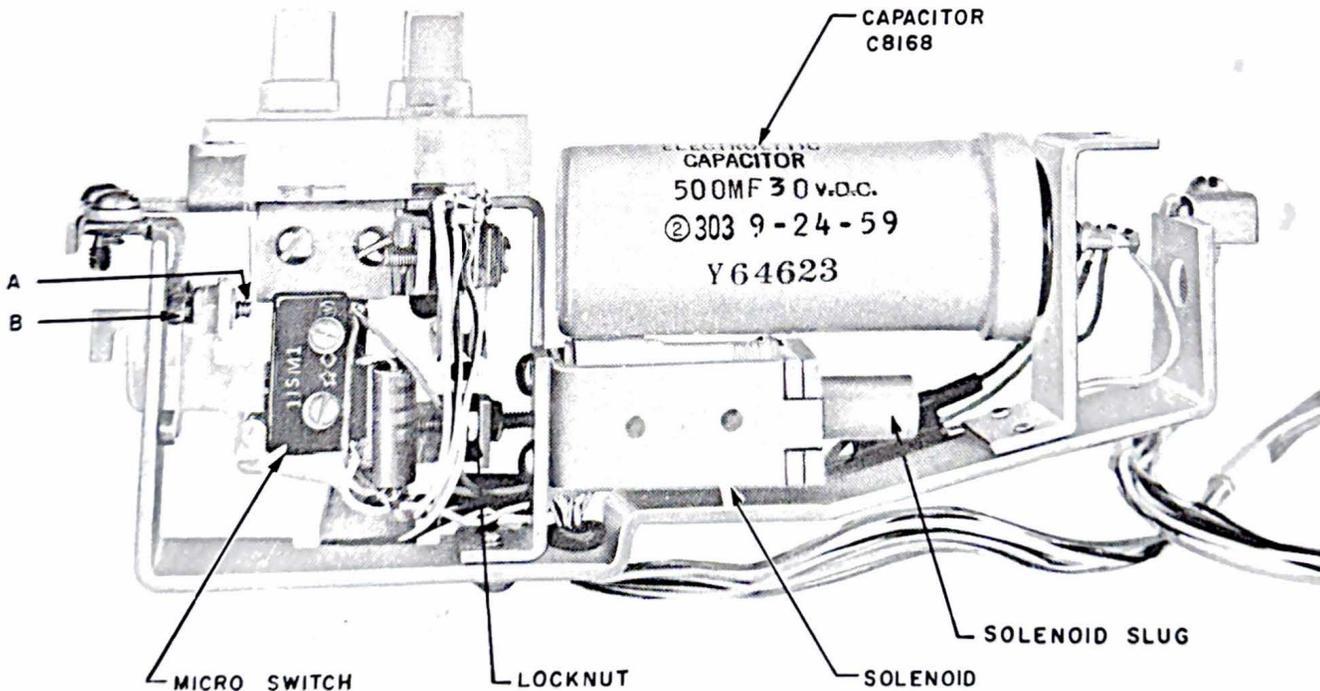

Fig. 18 - 622A Key, Cover Removed
- The solenoid slug should be 0.005 inch to 0.015 inch from the bottom of the solenoid at the completion of the stroke. Gauge by feel. To adjust the position of the slug, loosen the locknut with a 388A tool, and turn the slug in or out with the fingers (Fig. 18).
- The MICRO SWITCH should energize the solenoid with approximately 0.030 inch travel of the latch bar; gauge by eye (A in Fig. 18). Adjust with screw (B in Fig. 18).